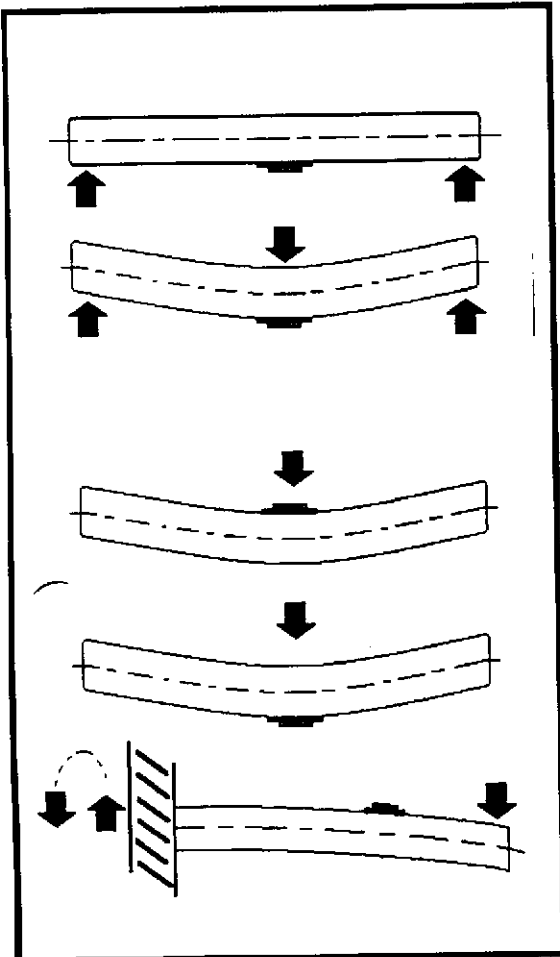
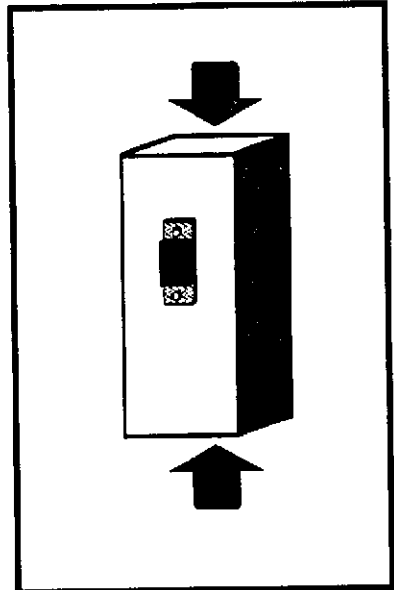
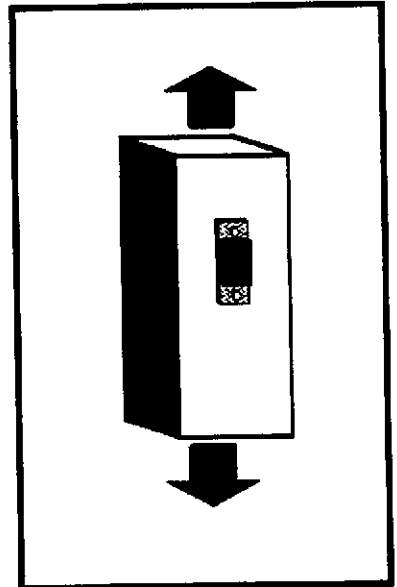

Figure 2. Bending.
Figure 3. Compression.
Figure 4. Tension.
4. Bend (Figure 2), compress (Figure 3), and pull (Figure 4) the Microcell Sensor Assembly to demonstrate the sensitivity of the sensor.